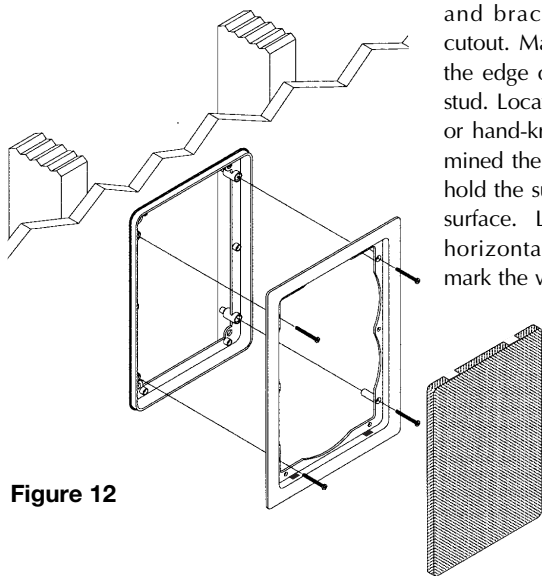

Figure 12
7. Attach the frame to the bracket by screwing the frame to the bracket using the supplied screws. Do not overtighten the screws, this will distort the frame and the grilles will not fit (this is not permanent, just loosen the screws and the grille will pop in). The screws should pull the frame and bracket together (sandwiching the drywall) so that the frame is absolutely flush with the wall surface. There should be no gaps between the wall and the frame **(See Figure 12)**.